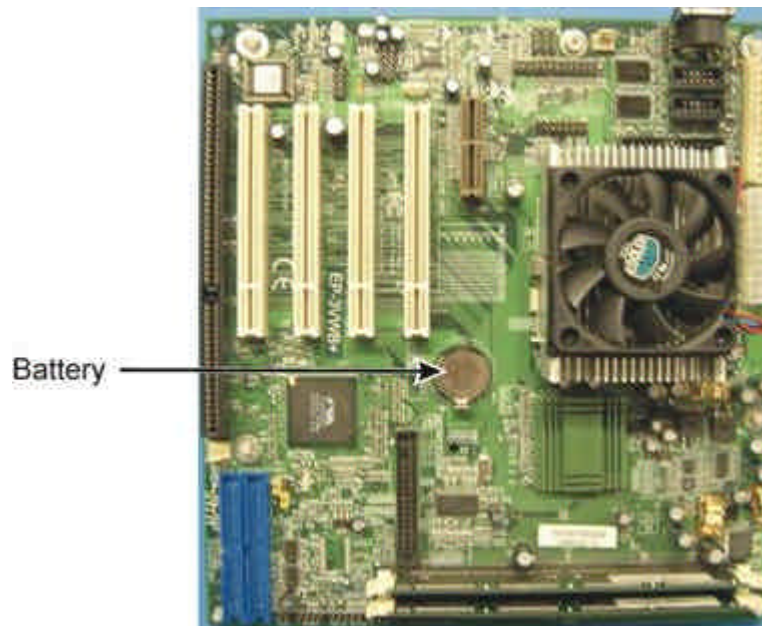

Figure 2: EPOX EP-3VWB Motherboard
- EPOX EP-3VWB (AT form factor, green in colour) (Shipping November 2002 to April 2004) See Figure 2.